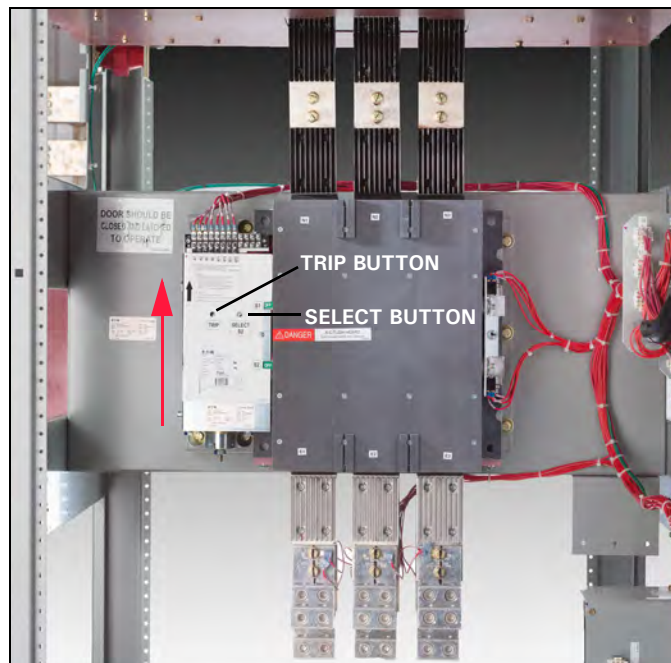

Figure 14. ATS Manual Operating Handle in Use.
5. Attach the handle to the manual lever (see Figure 14).